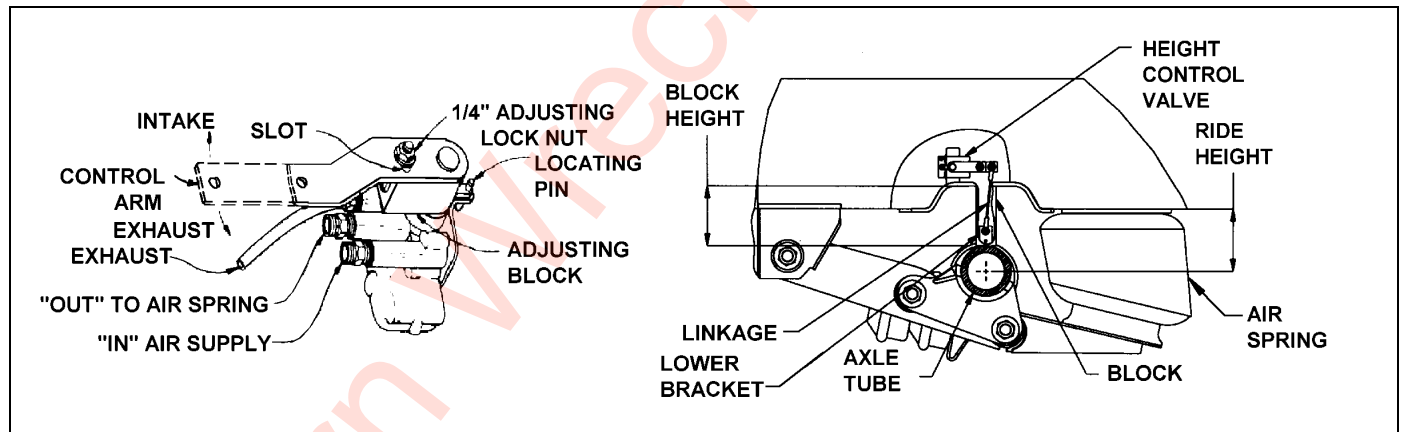

Figure 4-7: Air Ride Height Adjustment
(See Figure 4-7 for parts identification.)
2. Disconnect linkage at the control arm and raise control arm to the "up" position, raising the trailer until a block can be placed between axle tube and undercarriage frame (See Figure 4-7.)
6. Loosen the 1/4" adjusting lock nut located on the adjusting block, allowing the control arm to move approximately 1 inch. Move the adjusting block until holes align, then insert locating pin. (See Figure 4-7.)